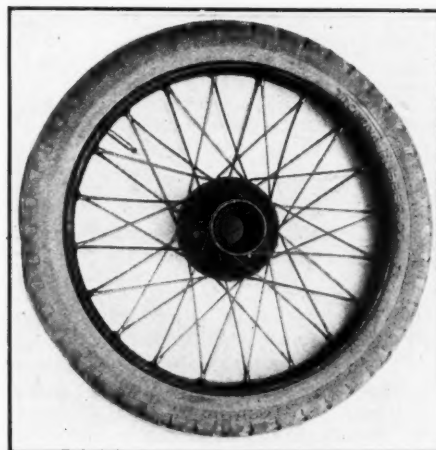

Fig. 5—Cameron Ford wire wheel
**Cameron Ford Wire Wheels**—A detachable and interchangeable wire wheel, Fig. 5, for Ford cars has been brought out by the Cameron Wire Wheel Co., Detroit, Mich. These wheels are being furnished in sets of five and are laced in a special manner. With this construction the tread of the wire wheels is the same as the wooden ones, which is an advantage on rough roads as there is less danger of the wheels catching in the ruts. It is said that the lacing is easily cleaned. The change from wood to wire wheels can be made in one hour's time.